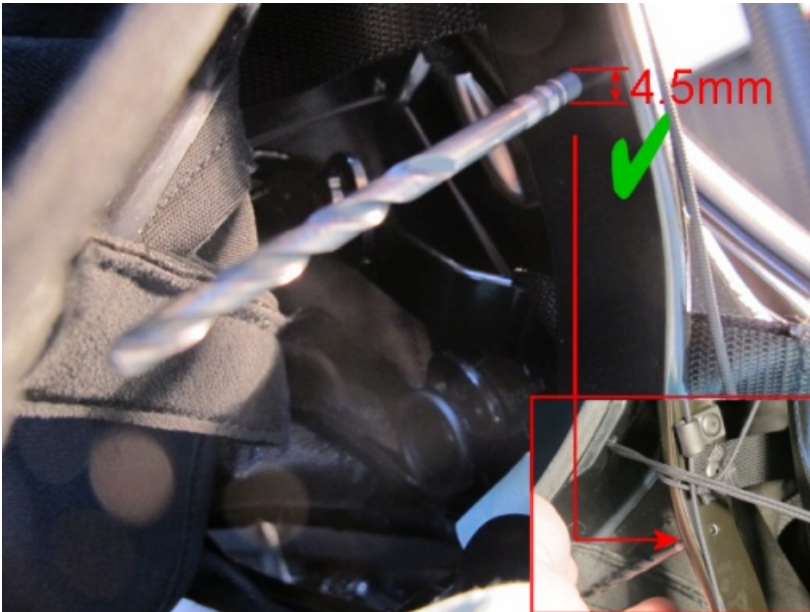
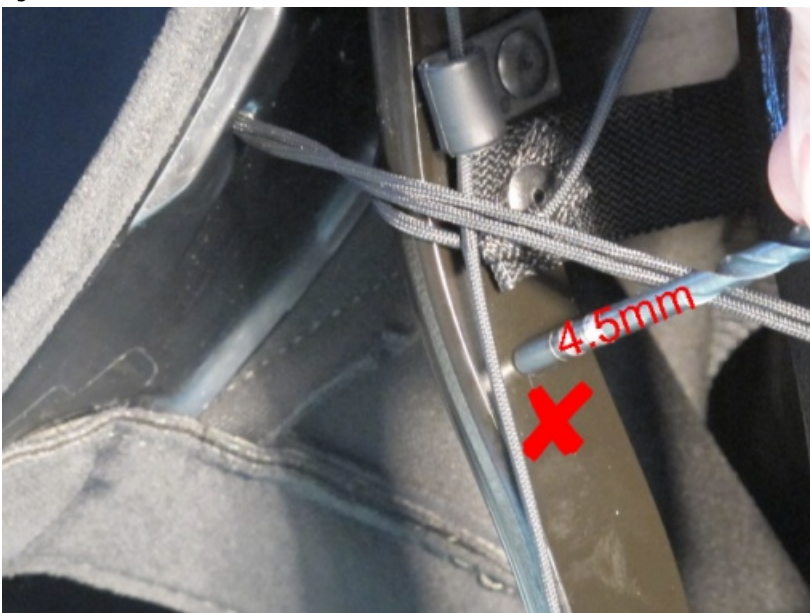

Figure 5
Figure 6
4. Referencing figure 2A use a 4.5mm drill to gauge the size of hole, the 4.5mm drill should enter the 4.5mm bore from the rear (see Figure 5) but not enter the front of the bore indicating that the front part of the bore is the correct size at 3.5mm (see Figure 6). If this is the case re attach